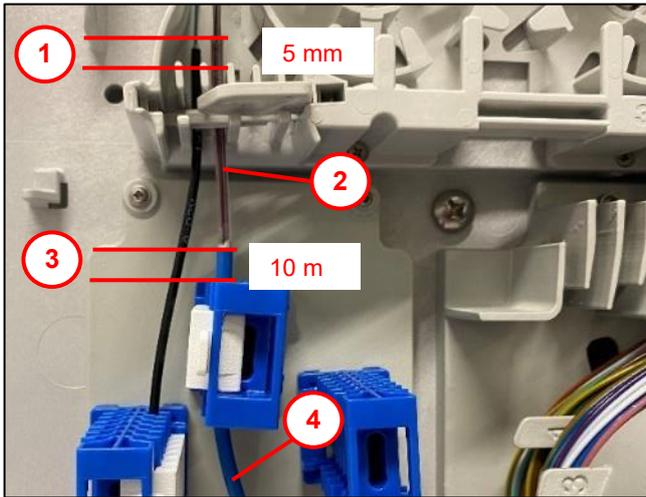

Fig. 35
- Press the micro cable (1) into the clamping positions (2), referring to Fig. 35 for the length to be stripped above the clamping positions.
- Strip the optical fibre micro cable (1) above the optical fibre guide duct (2) (see Fig. 35 for the length to be stripped).
- Use the fixing components (3) to fix the optical fibre micro cable in the optical fibre guide duct.